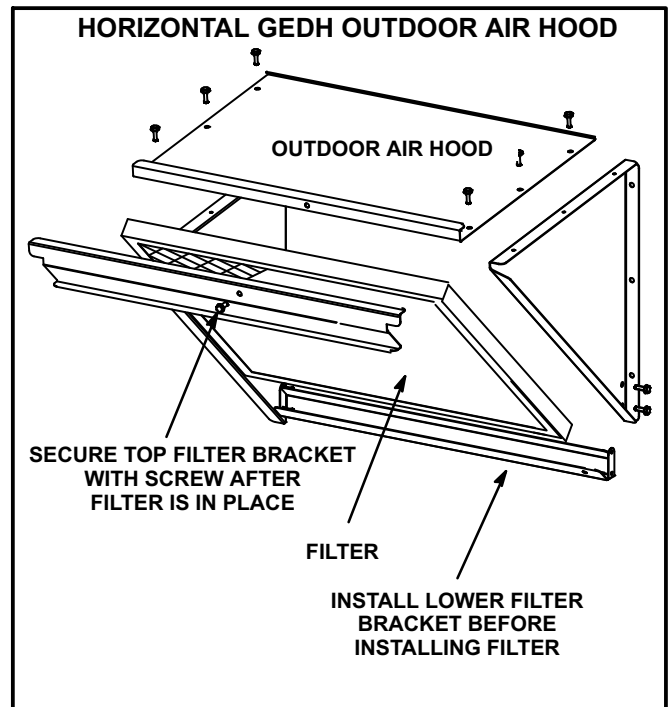

FIGURE 10
- 7- Install the upper hood on the unit as shown in figure 10.